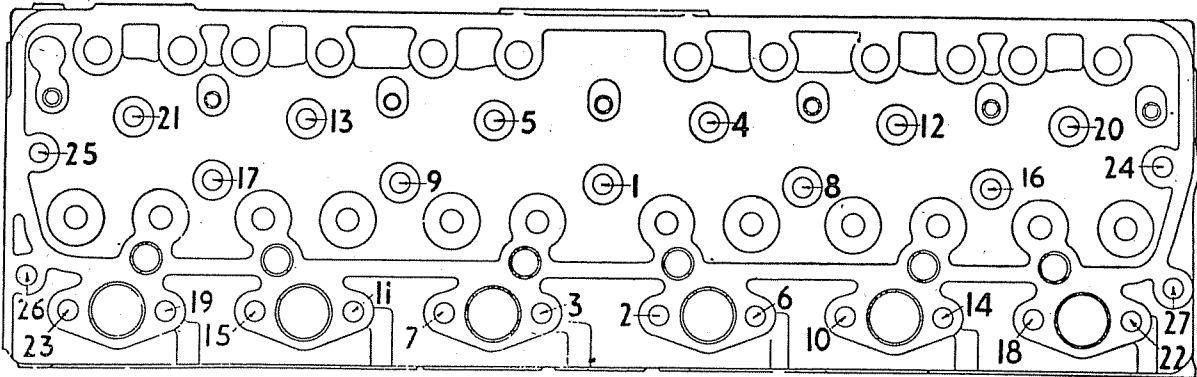

Fig. 14.—Diagram showing order in which cylinder head nuts must be tightened.
- (1) Cover both sides of the gasket with a thin coating of jointing compound.
- (2) With the under face of the cylinder head perfectly clean, the head may be lowered into position on its studs and the nuts tightened down in the order shown in Figure 14. The cylinder head nuts should be pulled down tight.
- (3) Replace the atomisers (see Paragraph 45).
- (4) Replace the rocker shafts and adjust the tappets to approximately .012 inch.
- (5) Thoroughly clean the oil feed pipes to the rocker gear and blow clean air through them.
- (6) Examine the unions to see they are in good condition.
- (7) Replace these pipes, taking care to screw the union up tightly.
- (8) Replace the hose connections to the water pump, the pipe between the venturi and the pneumatic governor, also the ventilation pipe between induction pipe, cylinder head cover, oil filter, leak off gallery, ki-gass pipes, etc.
- (9) Start the engine as instructed in Paragraph 81.
- (10) After warming up, the engine should be shut down and the rocker shafts removed and the cylinder head nuts can again be tightened down, the nuts being tightened in the sequence as shown in Figure 14.
- (11) Refit the rocker shafts and reset the tappets. After warming up, the tappets should be finally set with a clearance of .010 inch.
- (12) Replace the cylinder head cover, using a new joint. Care should be taken to see that it is correctly placed, otherwise oil may leak away in considerably quantity, enough to starve the engine of oil if left unchecked.